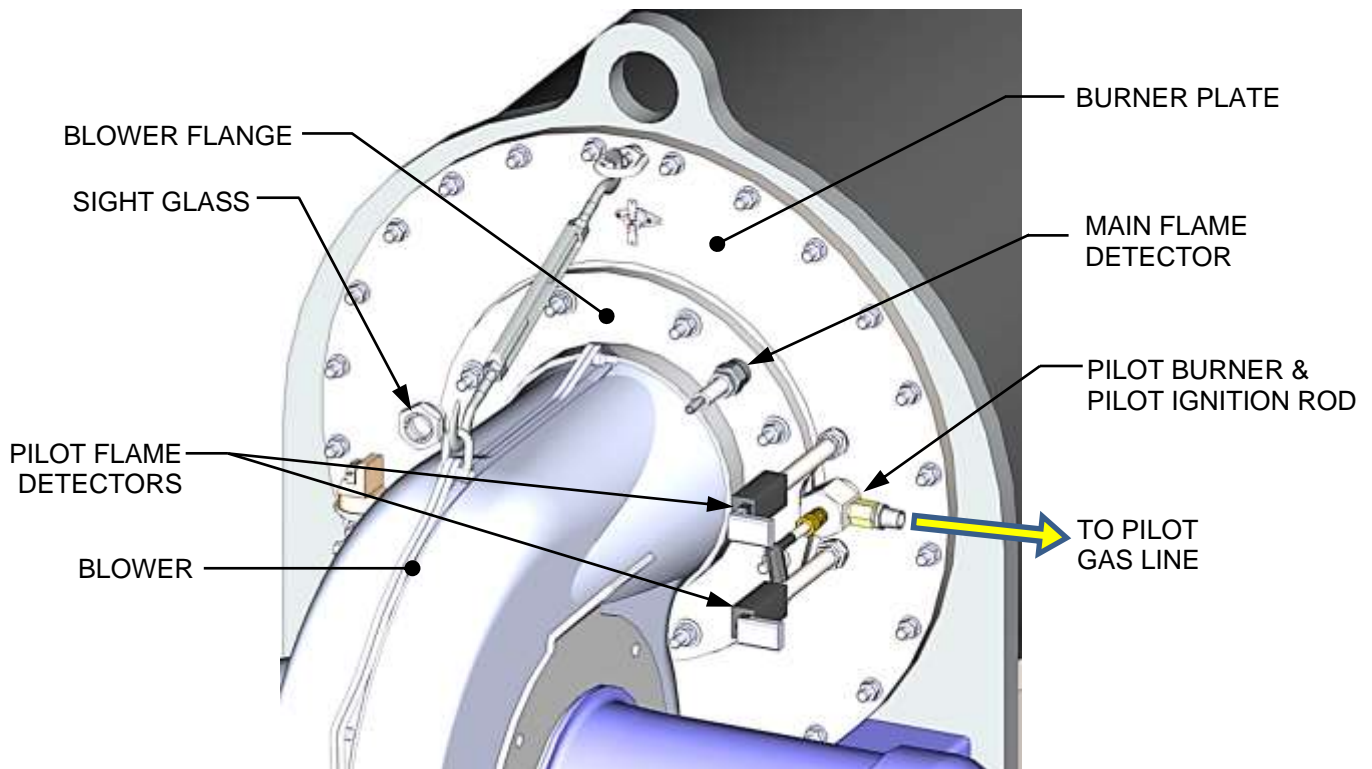
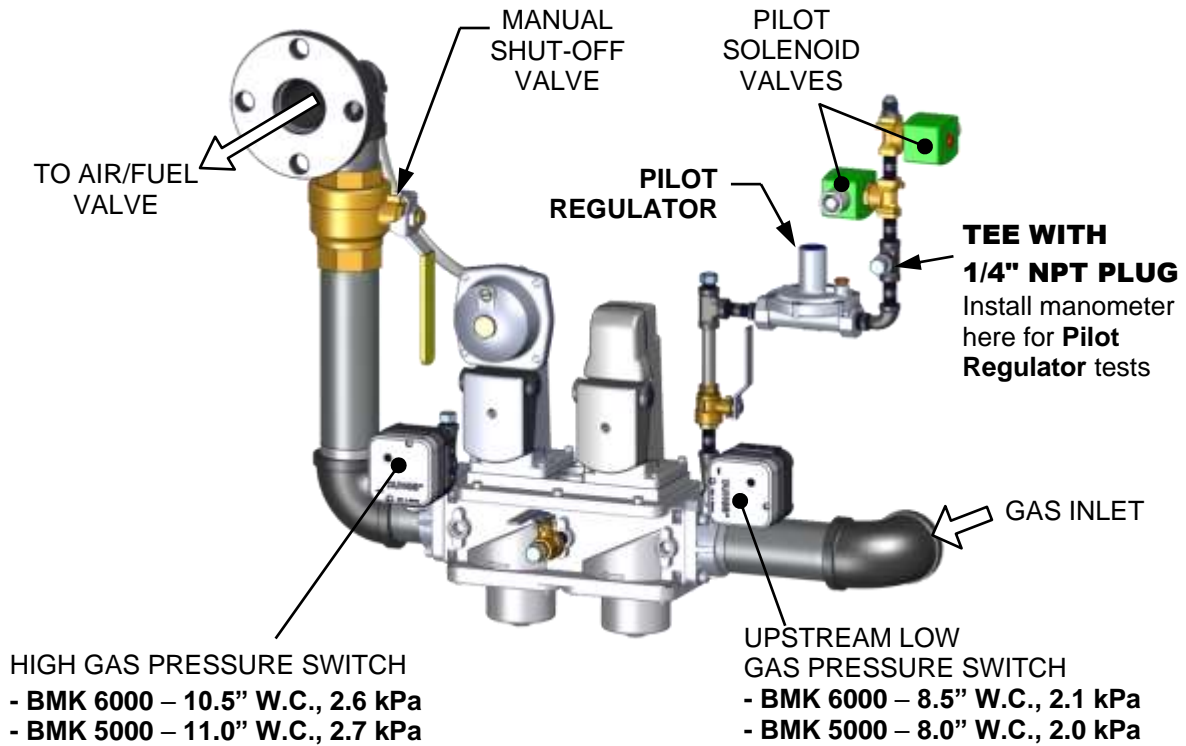
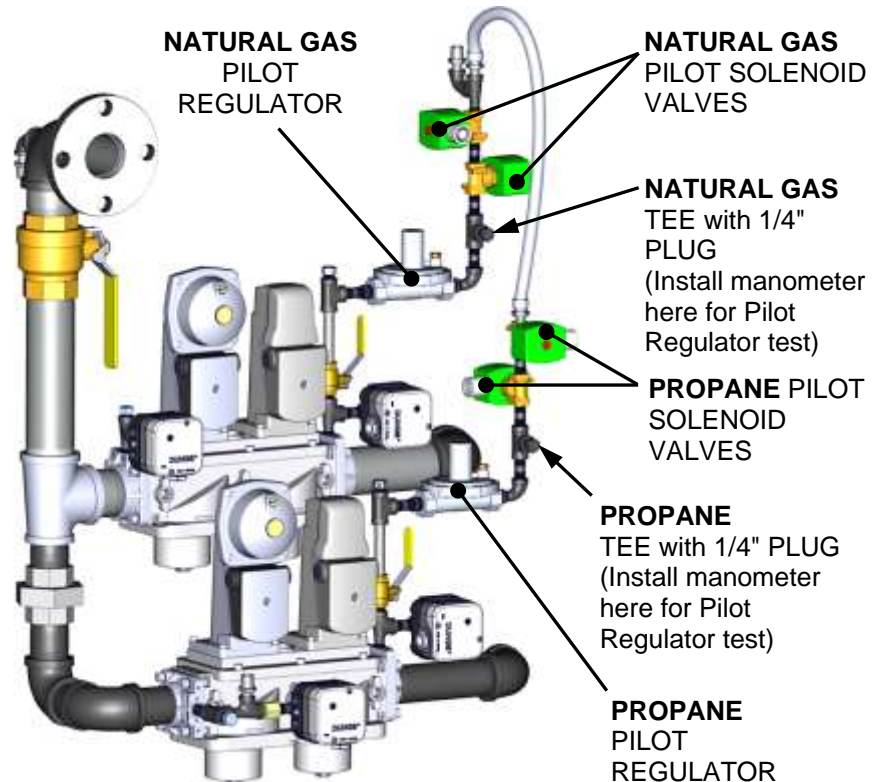

Figure 4-1a: Pilot Burner, Main & Pilot Flame Detector Mounting Locations
Figure 4-4a: BMK 5000/6000 Single Fuel Pilot Regulator Mounting Location
Figure 4-4b: BMK 5000/6000 Dual Fuel Pilot Regulator Mounting Location
The Pilot Burner (P/N **29700**) is located on the right-front of the Burner Plate. It contains an ignition cable, the Pilot gas line connected to the bushing, and the Pilot Burner Rod (P/N **66100**), which should be inspected and/or replaced according the schedule in Table 4-1a. Figure 4-1a shows the location of the Pilot Burner and related components.
3. Disconnect the ignition cable from the Pilot Burner (Figure 4-1a).
4. Using a 1/2" open-end wrench, disconnect the Pilot gas line from the reducer fitting and elbow shown in Figure 4-1a.
The Main Flame Detector (**Replacement Kit P/N 65182**) is located on the Blower Flange near the top of the unit (see Figure 4-1a, above). The Main Flame Detector may be hot. Allow the unit to cool sufficiently before removing the Main Flame Detector. Inspect or replace the Main Flame Detector as follows:
Benchmark 5000 & 6000 standard models feature one Pilot Regulator system in the Natural Gas gas train, while Benchmark 5000 & 6000 Dual Fuel units have two Pilot Regulator systems, one in the Natural Gas gas train (see Figure 4-4a) and one in the Propane gas train (see Figure 4-4b).
3. Remove the 1/4" NPT plug from the Tee on the outlet side of the Pilot Regulator (Figure 4-4a or Figure 4-4b) and insert a NPT-to-barbed adapter fitting.
5. Remove the cap from the Pilot Regulator to access the gas pressure adjustment. Rotate the regulator adjustment (beneath cap) clockwise (CW) to its highest possible pressure setting.
10. Pull out one of the Pilot Flame Detectors (see Figure 4-1a, above) and look into the observation port on the front plate. You should see the orange glow of the Pilot flame during the ignition trial period.
3. Remove the pipe plug from the 1/4” NPT port on the outlet side of the Pilot Regulator (Figure 4-4a or Figure 4-4b, above) and insert a NPT-to-barbed adapter fitting.
5. Remove the cap from the Pilot pressure regulator and rotate the regulator adjustment (beneath cap) clockwise (CW) to its highest possible pressure setting.